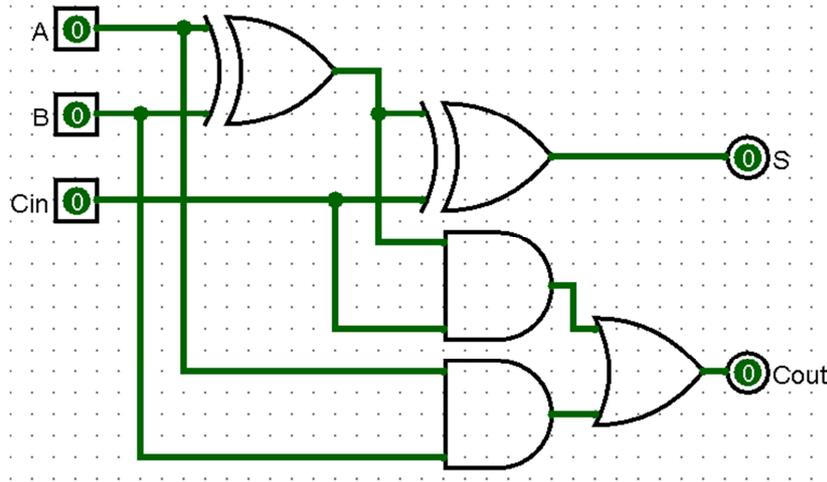
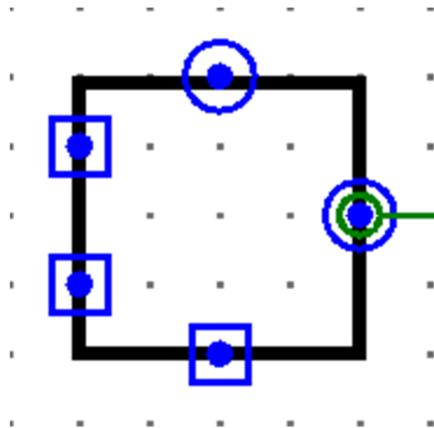

Figure 10.2: Full Adder Circuit Design
Figure 10.5: Full Adder Block
- c. Finally, design the circuit based on the above equations (Figure 10.2)
Within the newly created full adder FA0 circuit designed above (Figures 10.2 or 10.3), change the orientation of the Ci input so that it is facing south. Change the orientation of the Co output so that it is facing north (Figure 10.5). Your circuit is ready to be used as a module or sub-circuit in a more complex digital system design.